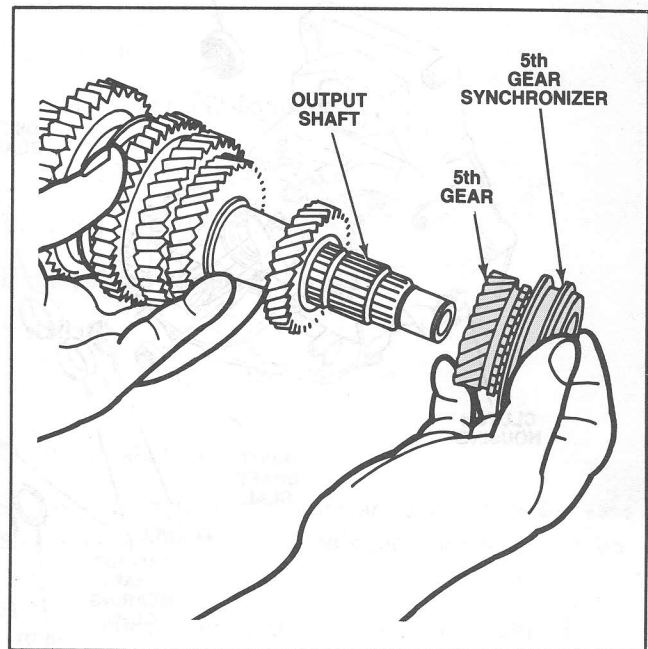

Figure 65 Fifth Gear and Synchronizer Removal
5. Remove the fifth gear synchronizer and fifth gear, as an assembly. (Figure 65).